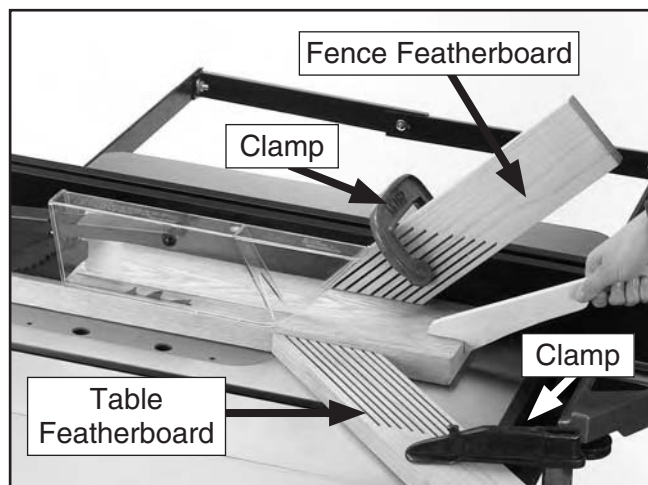

Figure 83. Example of featherboards secured with clamps.
3. Place a featherboard on the table away from the blade so all fingers point forward and contact the workpiece (see **Figure 83**).